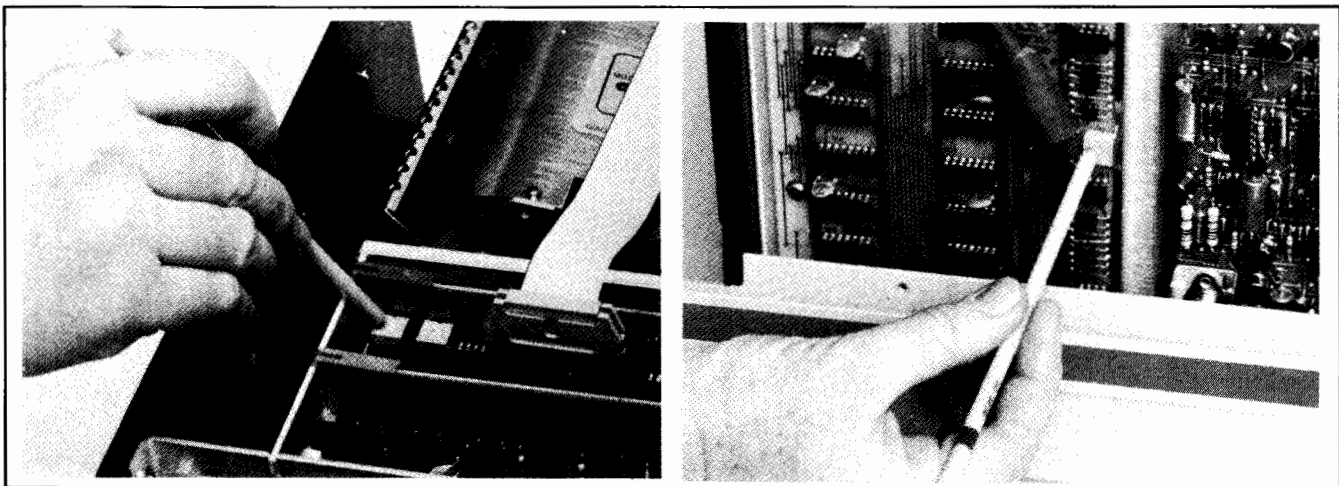

Figure 5-1. Electrical References and Adjustments
- d. Adjust MARK SENSE potentiometer while monitoring voltage on REF and GND Test Points. (Head Amplifier Board, Part Number 07261-61010.) See Figure 5-1.
- b. Adjust PUNCH SENS potentiometer on A1 PCA while monitoring voltage on REF and GND Test Points. See Figure 5-1.